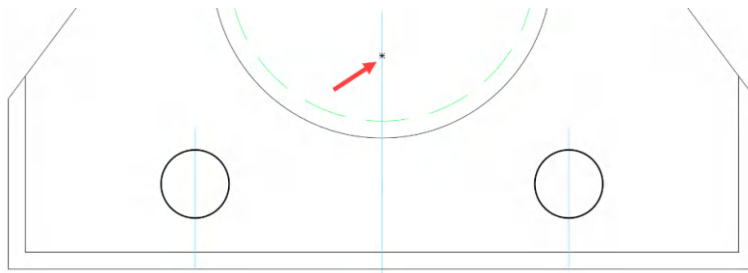

Figure 5.18: The Geometric Center Osnap (arrowed) of the bearing case outline polyline
11. Hover your cursor/crosshair over any part of the newly created outside polyline. Ignoring the other Osnaps, you'll see a small asterisk-like symbol (\*) toward the center of the bearing case, as shown (arrowed) in *Figure 5.18*.